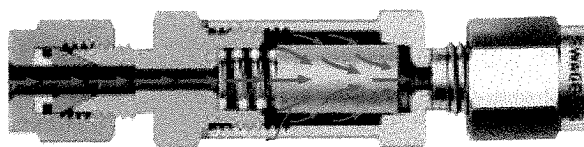

Figure 6-18. Model B-8TF2-15 Filter
- a. Model B-8TF2-15 Filter Elements. Installed in the chamber oxygen and mixed gas supply piping, the B-8TF2-15 filter (see Figure 6-18) provides filtration to remove particles of 15 microns or larger. Refer to sections 6-7.1.1 through 6-7.1.3 for removal, disassembly and repair, and reinstallation of the filter element. See Table 6-14 below.